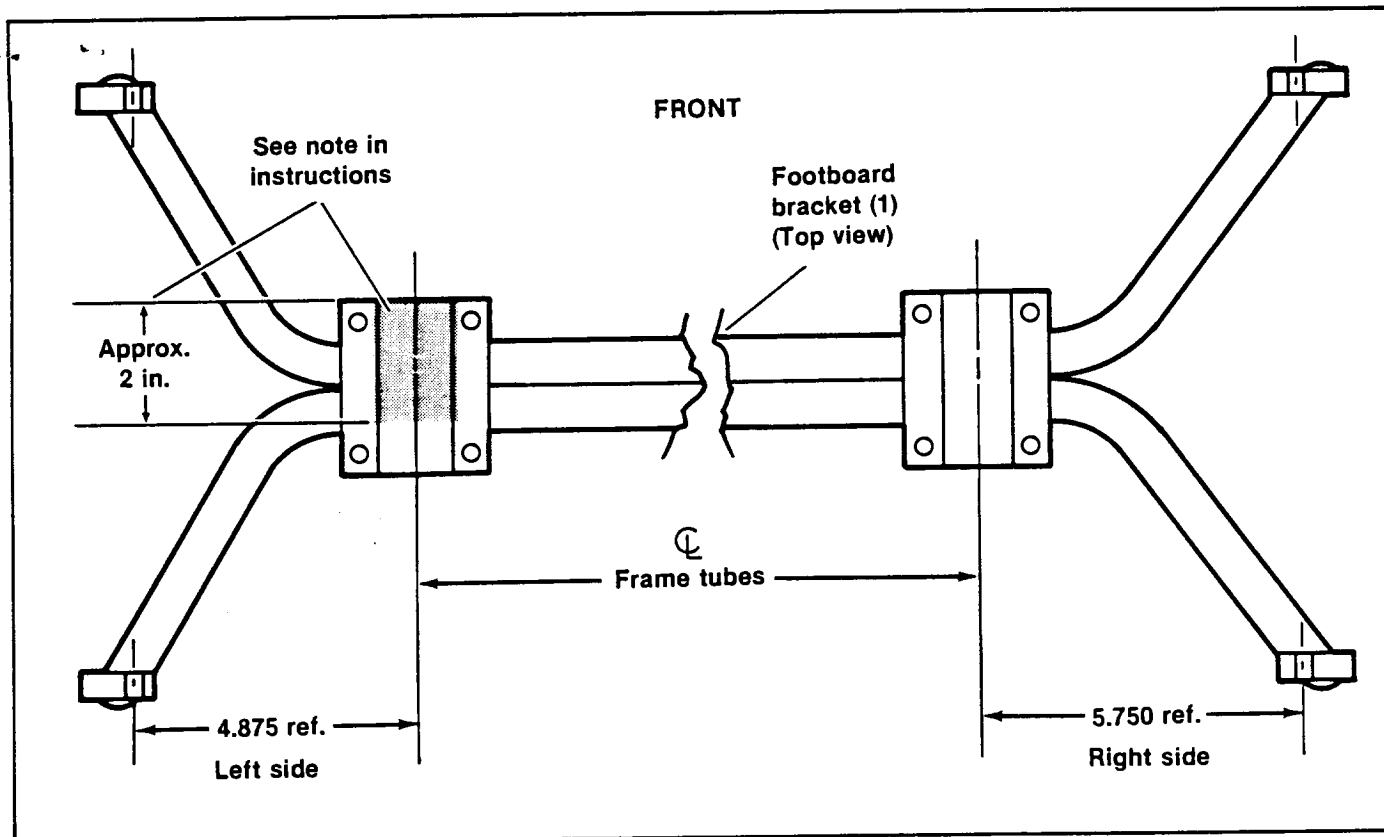

Figure 2. Footboard bracket
On some motorcycles the left frame may be slightly wider than the 1.250 in. diameter in the footboard bracket (1) mounting block and the upper block (3). If so, grind radius to correct diameter in both pieces to the length as shown in Figure 2.